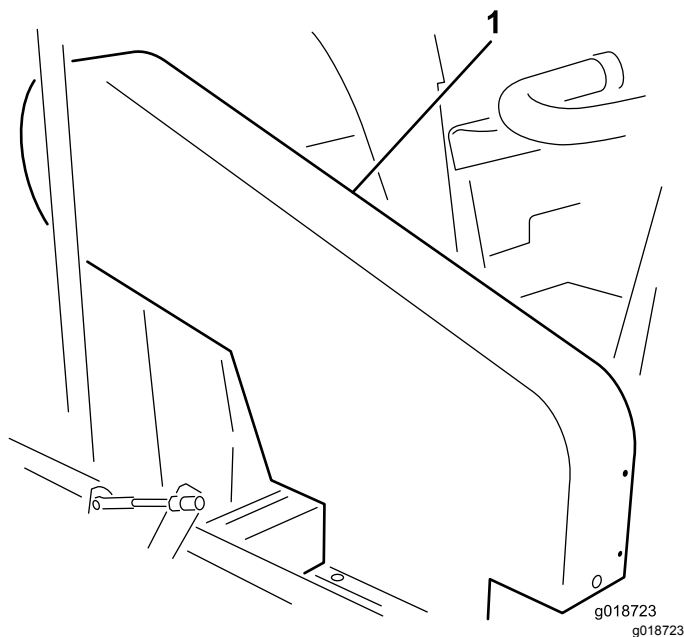

Figure 19
Note: It is not necessary to remove the upper belt guard (Figure 19) to check the belt tension. If you remove the belt guard, remove the 4 bolts, washers, and nuts securing the guard to the frame. Do not operate the machine without the guards in place.
Check the tension by pressing the belt at the midspan of the impeller and clutch pulleys with 18 to 22 N (4 to 5 lb) of force. The belt should deflect 1.3 cm (1/2 inch). If the deflection is incorrect, refer to Adjusting the Impeller Drive Belt (page 24). If the deflection is correct, continue normal operation (Figure 19).
Check the tension by pressing the belt at midspan of the jackshaft and clutch pulleys with 18 to 22 N (4 to 5 lb) of force. The belt should deflect 6 mm (1/4 inch). If the deflection is incorrect, refer to Adjusting the Jackshaft Belt (page 24). If the deflection is correct, continue normal operation (Figure 19).
1. Remove the 4 bolts, washers and nuts securing the upper shroud to the frame (Figure 19).